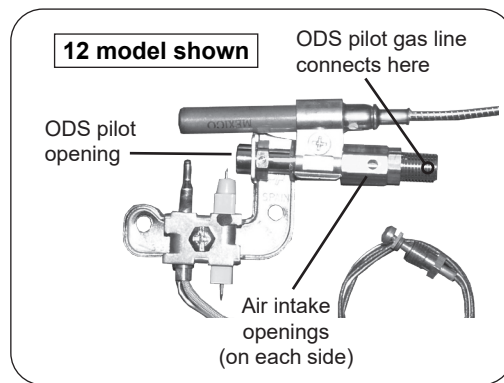

Fig. 28-1
1. Turn the burner system to the **OFF** position and allow it to cool. Inspect the ODS pilot area (see Fig. 28-1) for any visual contamination or debris (usually lint, hair, spider webs, or small insects). Lightly brush off all external surfaces while vacuuming loosened debris from the ODS pilot opening. **Be careful not to brush any foreign material into the ODS pilot opening.**
2. Clean out the air intake openings (see Fig. 28-1) by lightly brushing around the openings while vacuuming.
4. If the ODS pilot flame does not burn as indicated in the instructions, extinguish the ODS pilot by turning the valve to the full **OFF** position. Using a compressed air duster, insert the flexible nozzle through the air intake openings, ensuring that the nozzle is pointed toward the ODS pilot opening (see Fig. 28-1). Blow air through the intake openings to clear out any debris that may be in the system.
5. Relight the ODS pilot and inspect it to be sure it is burning as shown in the instructions. If not, extinguish the ODS pilot and **turn off the gas supply to the burner system.** Using an adjustable or a 1/4" wrench, disconnect the ODS pilot gas line (see Fig. 28-1) from the valve.